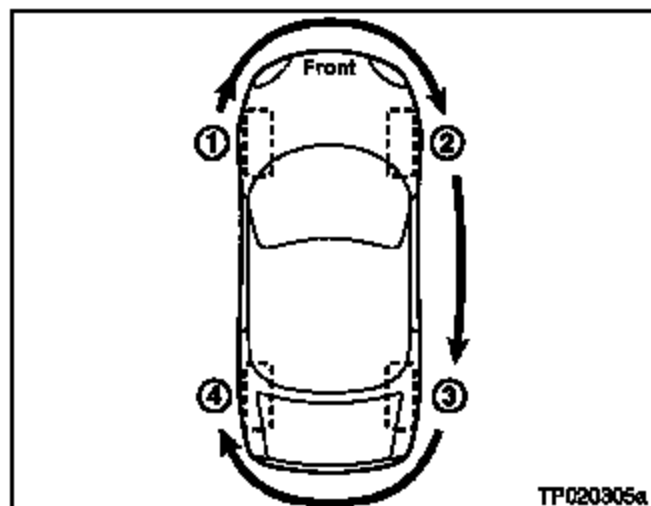

Figure 3
**IMPORTANT:** The wheel transmitters must be activated in the order shown in Figure 3.
6. Perform step 5 on the remaining wheel transmitters in the order shown in Figure 3.